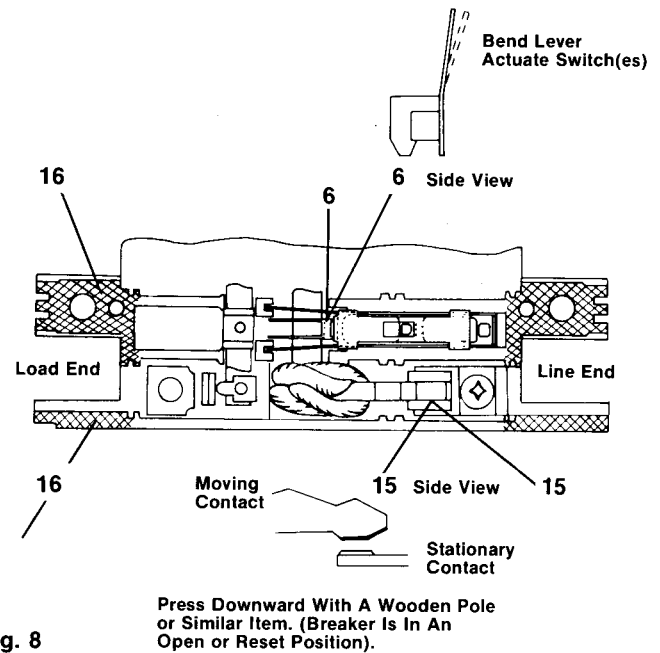

Fig. 8
has been depressed approximately 3/16". If switch fails to function at this point, then correct by bending auxiliary switch actuator lever (6) slightly. See Fig. 8.
15. Reopen cover and apply silicone adhesive/sealant supplied with kit to breaker base molding on cross-hatched areas only at line and load ends (16). See Fig. 8.